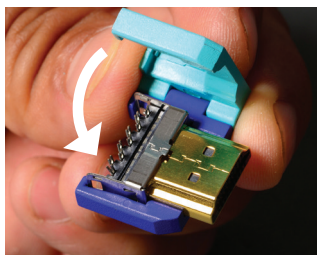
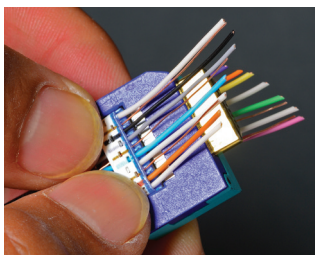
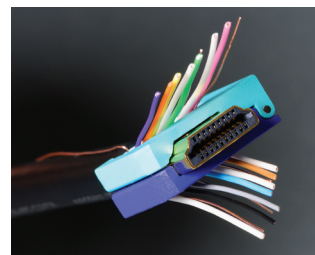

Figure 17.
Figure 18.
Figure 20.
Step 7 Insert the HD saddle (or socket) in the termination block and snap in place (Fig. 17). Place the two sets of wires on each side of the termination block (Fig. 18 - 19) leaving room at the base (Fig. 20).